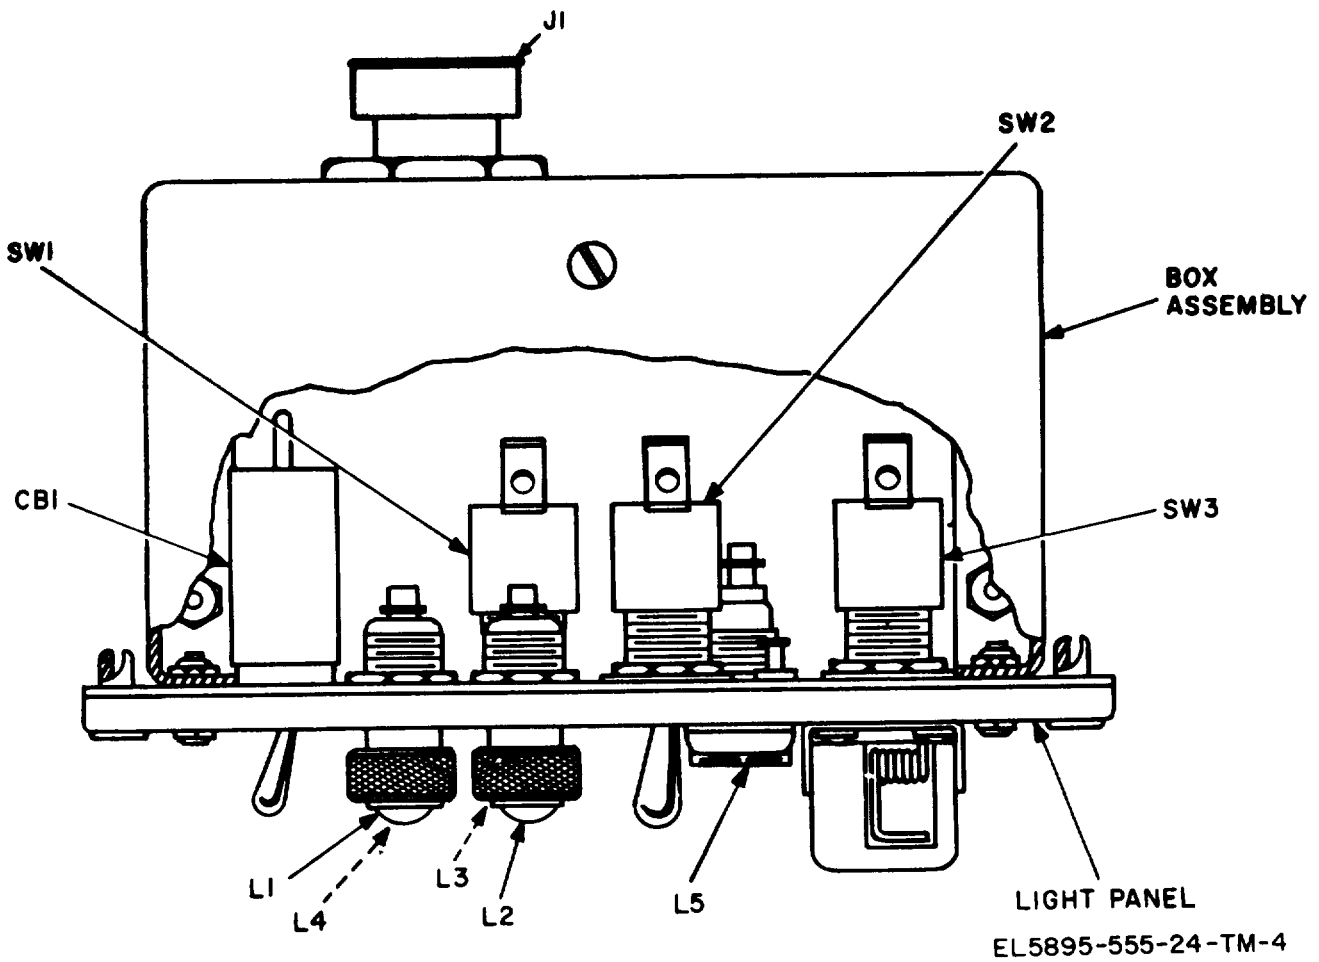
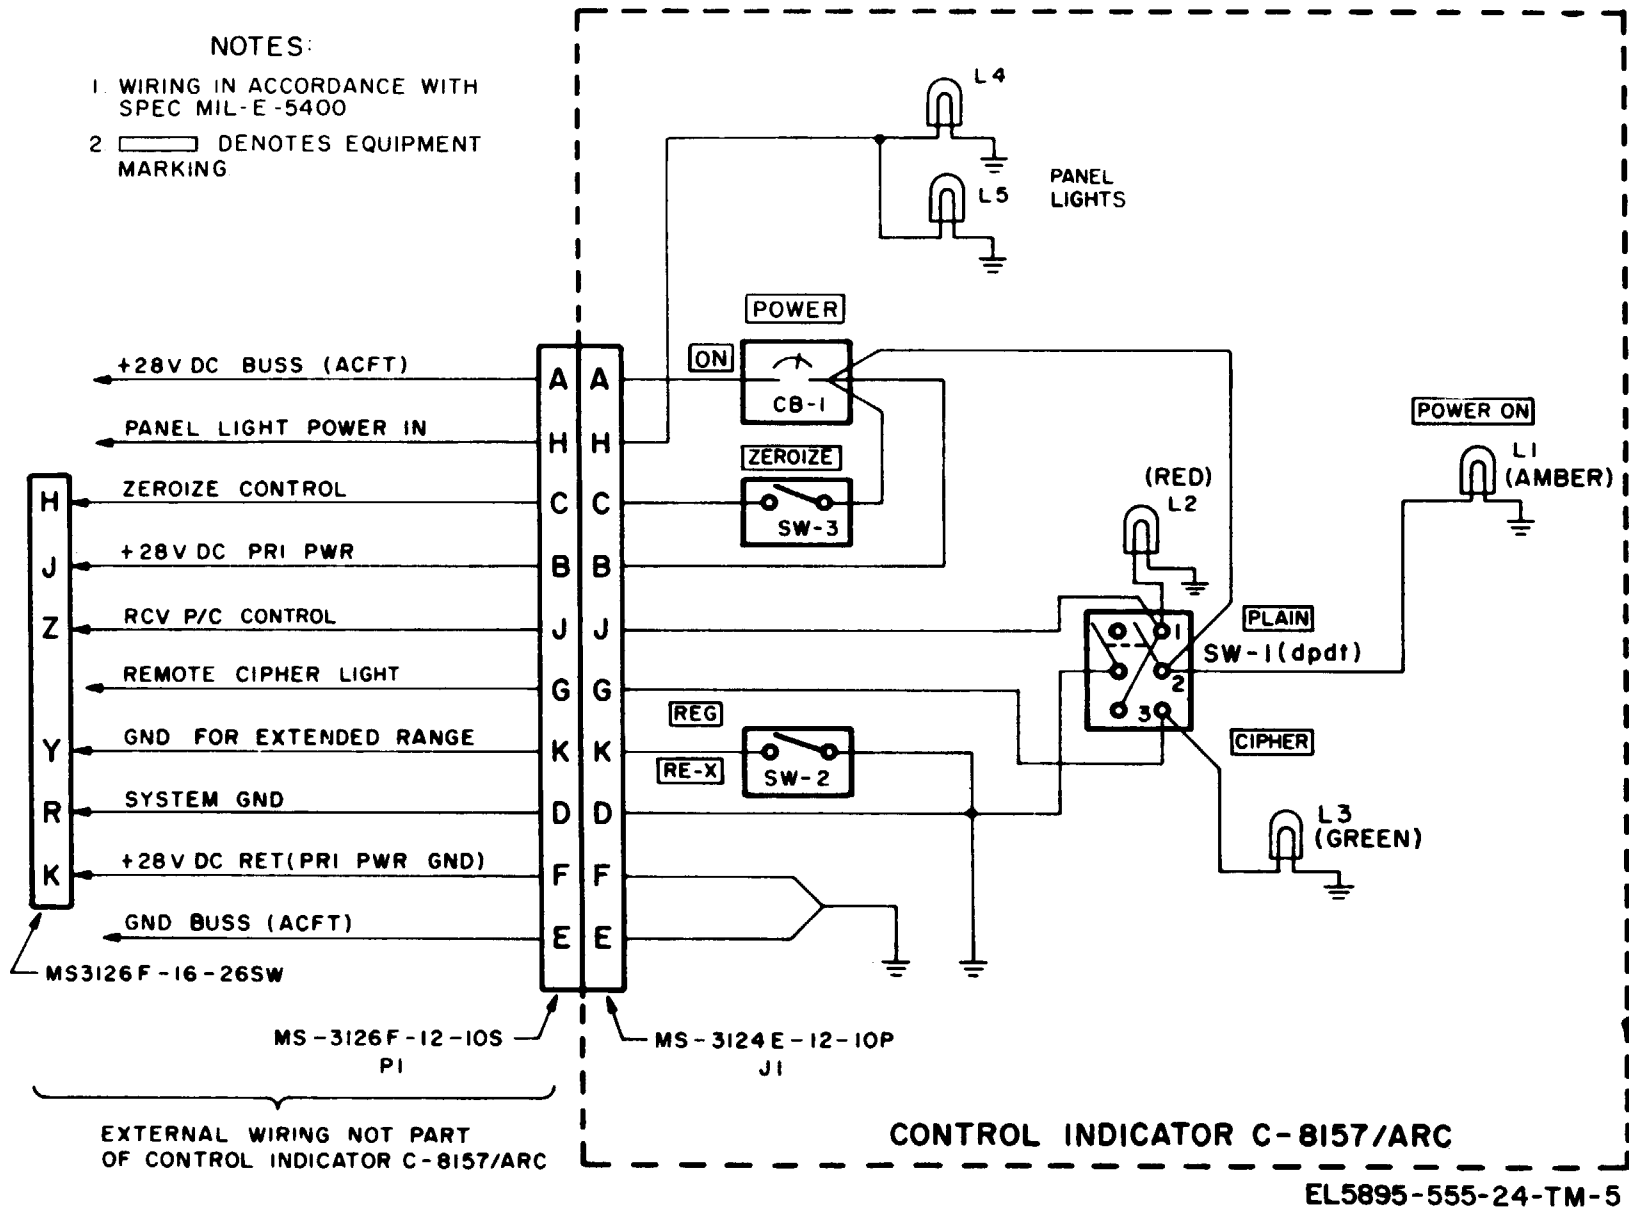

Figure 6-1. Control indicator parts location diagram.
Figure 8-1. Control indicator schematic diagram.
2. External wiring is not part of Control Indicator C-8157/ARC (fig. 8-1).
(fig. 8-1)
b. When the control indicator has been removed for bench testing, and the exact functional failure is known (as indicated prior to removal), use a multimeter, the schematic diagram (fig. 8-1) and the troubleshooting chart (pars 6-4) to isolate the fault. Refer to figure 6-1 for parts identification.
Adjust the output of the PP-1104B/G to +27.5 volts dc output and using schematic diagram (fig. 8-1), apply the positive lead to pin A of J1 and ground to pin E of J1.